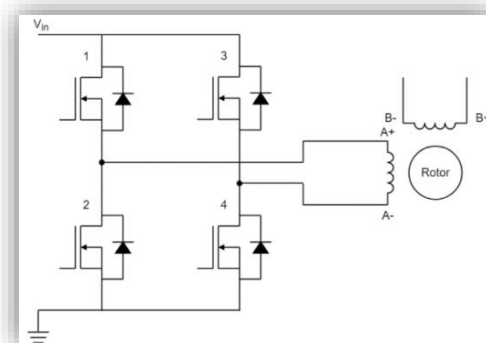

Figure 3: example of coil connected to H-Bridge circuit.
- We connect these 4 wires to the driver l298n how has two built-in H-Bridge circuits, each coil connected to an H-Bridge circuit. See in **Figure 3**.